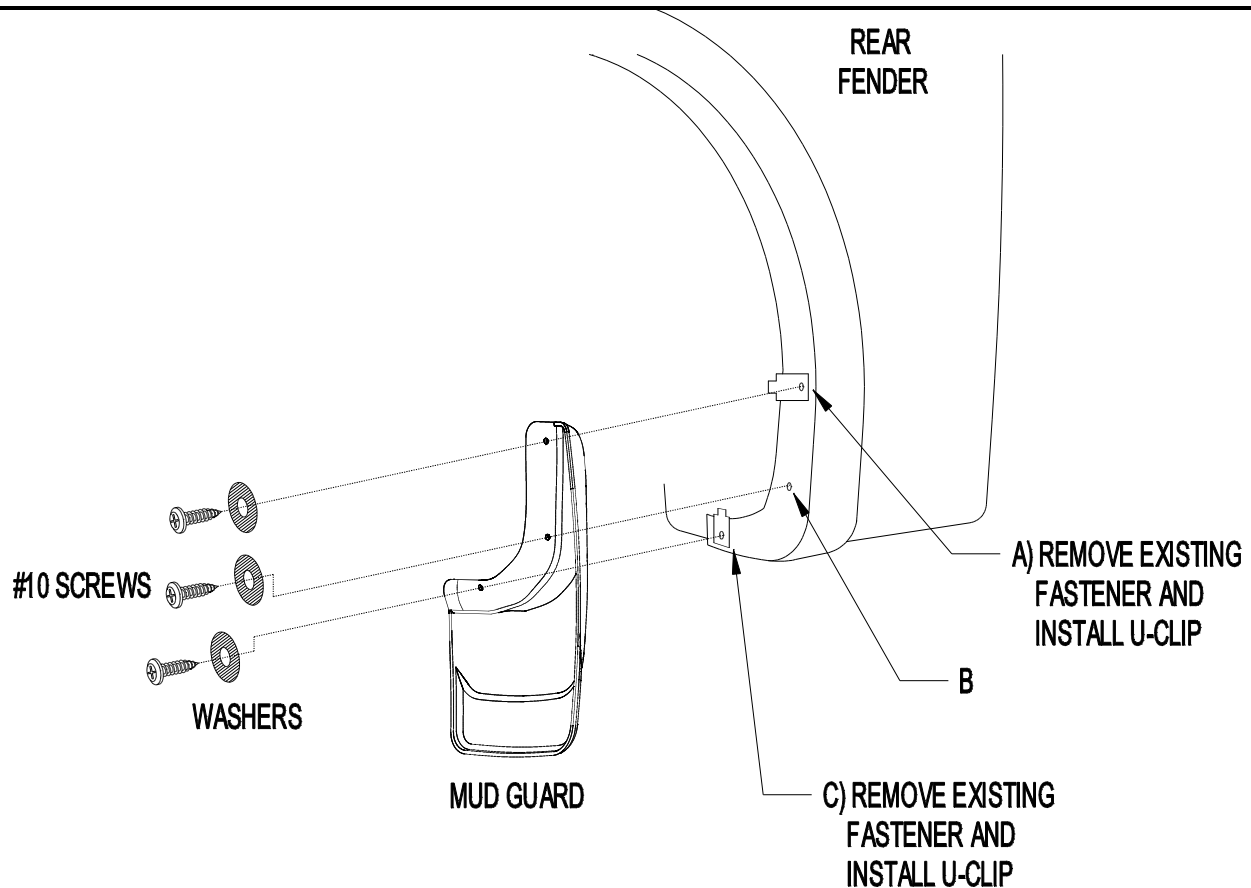

Figure 1
2. Remove existing fasteners and install U-clips at locations A and C (Figure 1).
3. Install mud guard to rear fender with #10 screws and washers at locations A and C (Figure 1). Check mud guard fit and adjust accordingly before tightening.